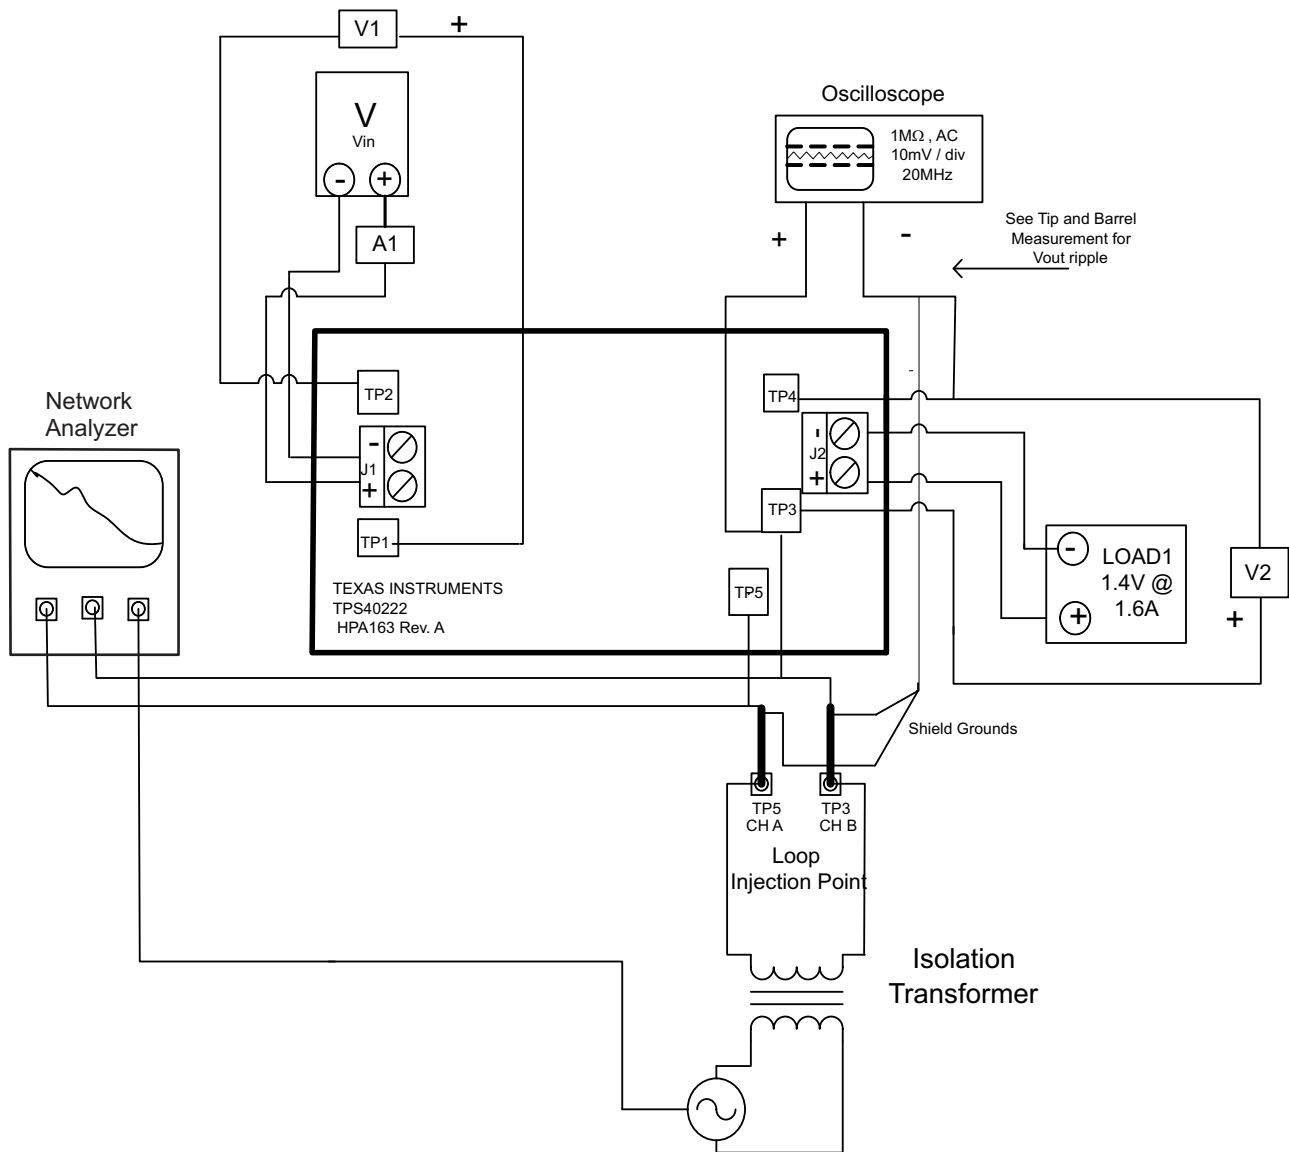
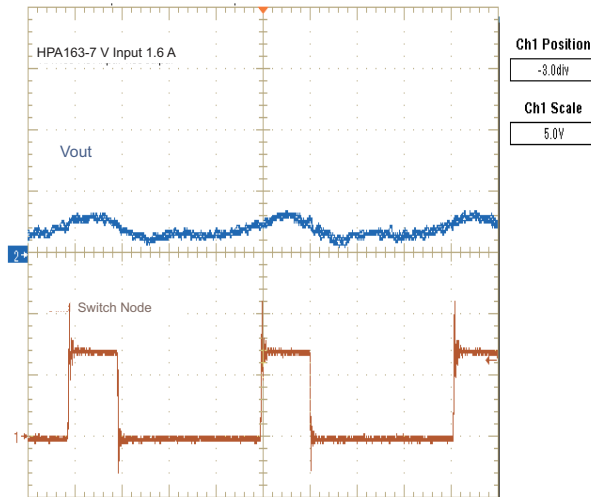
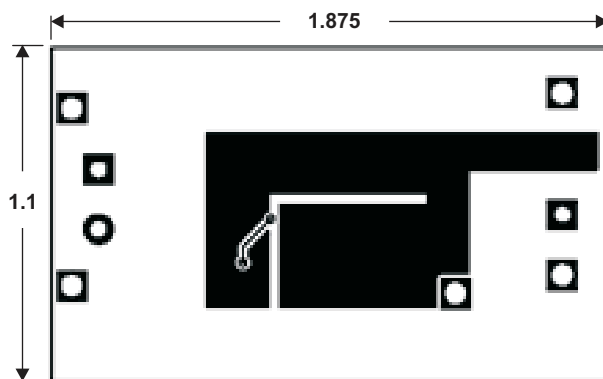

Figure 4. Control Loop Measurement Setup
Figure 7. TPS40222EVM-001 Switch Node and Output Ripple at 1.6 A
Figure 11. TPS40222EVM-001 Bottom Copper (X-Ray View From Top)
1. Connect 1-kHz to 1-MHz isolation transformer to TP5 and TP3 as show in Figure 4.
2. Connect input signal amplitude measurement probe (Channel A) to TP5 as shown in Figure 4.
3. Connect output signal amplitude measurement probe (Channel B) to TP3 as shown in Figure 4.
4. Connect ground lead of channel A and channel B to TP4 as shown in Figure 4.
Figure 4 through Figure 7 present typical performance curves for the TPS40222EVM-001. Because actual performance data can be affected by measurement techniques and environmental variables, these curves are presented for reference and may differ from actual field measurements.
The following figures (Figure 7 through Figure 11) show the design of the TPS40222EVM-001 printed-circuit board. The EVM has been designed using a 2-layer, 2-oz copper-clad circuit board 1.10 × 1.875 inch with all components on the top side to allow the user to easily view, probe, and evaluate the TPS40222 control IC in a practical application. Moving components to both sides of the PCB or using additional internal layers can offer additional size reduction for space-constrained systems.